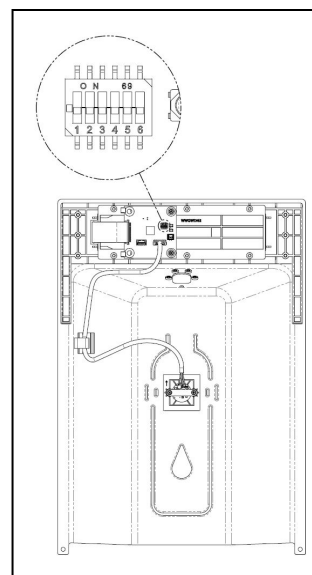

Figure 4: DIP Switch on Backside of Display
- Some features may be disabled using the DIP switches located on backside of display. All DIP switches are configured from the factory in the OFF (down) position. See Figure 4.